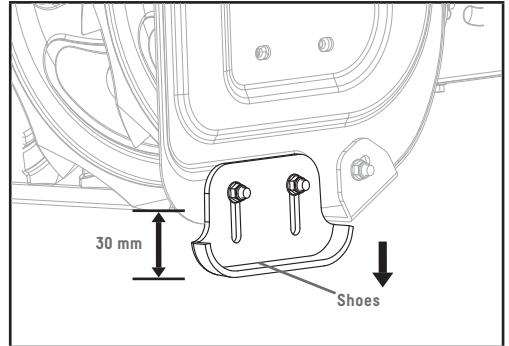

Figure 15B
- On uneven ground, e.g. gravel paths, the shoes should be adjusted to about 30 mm (the distance from the auger to the ground) (Fig. 15B).